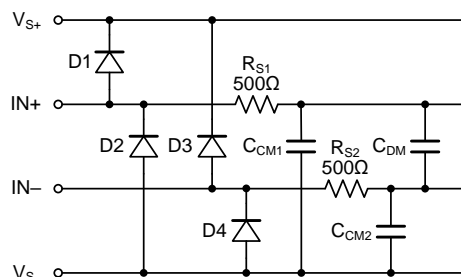

Figure 1. Input EMI Filter and Clamp Circuit
Figure 1 shows the input EMI filter and clamp circuit. The LTC8725/LTC8727 and LTC8726 comparators
Infrared (IR) communication is inherently immune to RF interference as long as there is a line-of-sight path between the transmitter and the receiver. It is also one of the lowest cost communication schemes. This makes it a good choice for implementing wireless communications in applications such as utility metering. A common system topology to extend battery life is to use a power efficient IR receiver analog front end (AFE) that is always on and wakes up the host only when there is a valid IR signal detected as shown in Figure 1.
Figure 1 shows the IR receiver system block diagram. The host MCU is normally in the shutdown mode (during which the quiescent current is less than 1 μ A) except when data is being transferred.